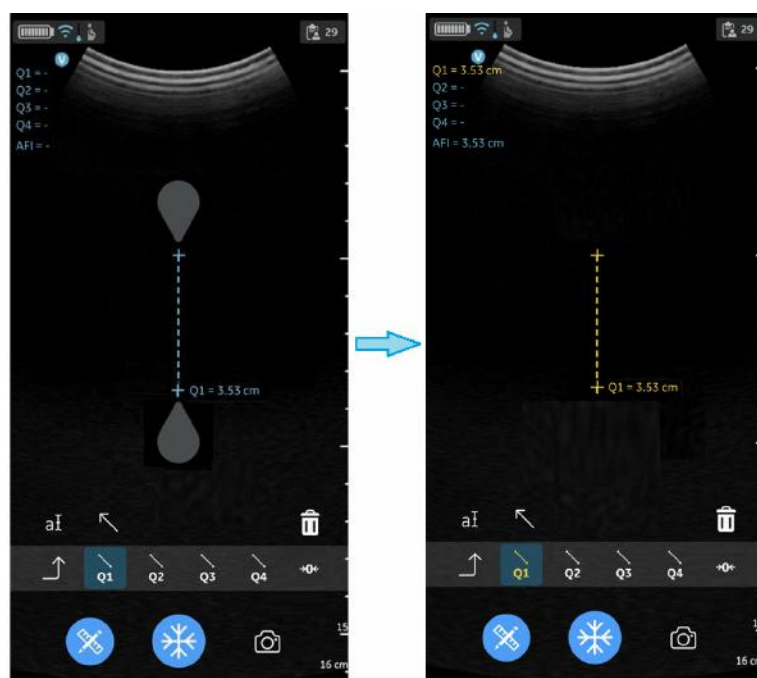

Figure 5-68. AFI Q1 Caliper
- Make a distance measurement. The system displays the measured value against the respective quadrant value in the results window as shown in the below Figure 5-68.